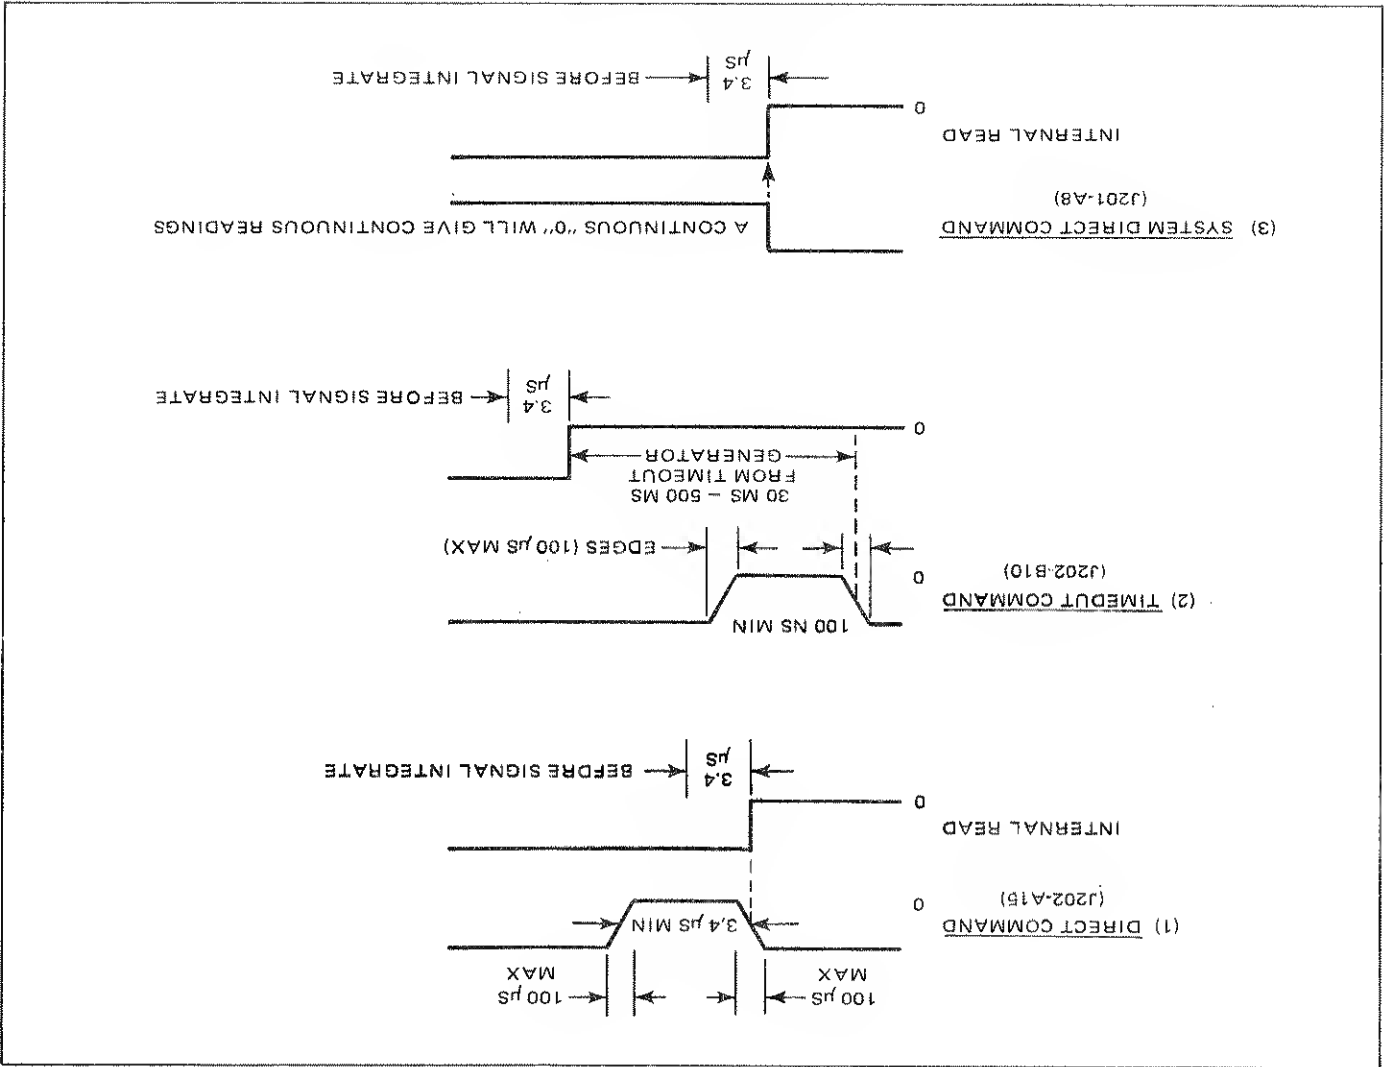

Figure 2.12 - Command Timing
2.65 In addition to the Direct Command, there are two other programmable read commands, as illustrated in figure 2.12.